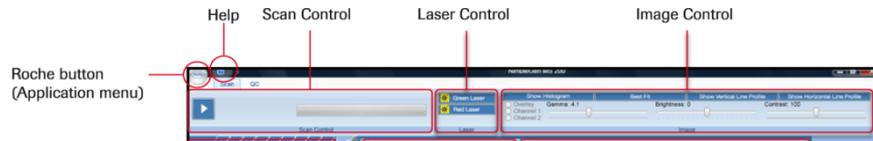

Figure 9: Top of Data Collection Workspace, showing Scan Control, Laser Control, and Image Control
2. Turn on the lasers by clicking the **Green Laser** and **Red Laser** buttons in the Laser Control (Figure 9).